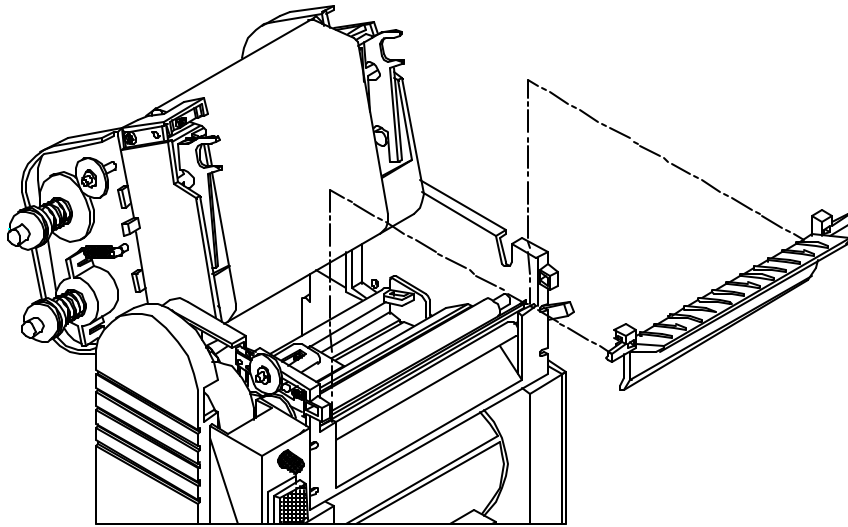

Fig. 2.5.3
12. Refer to the figure 2.5.3 to setup the strip bracket bar to the right position.